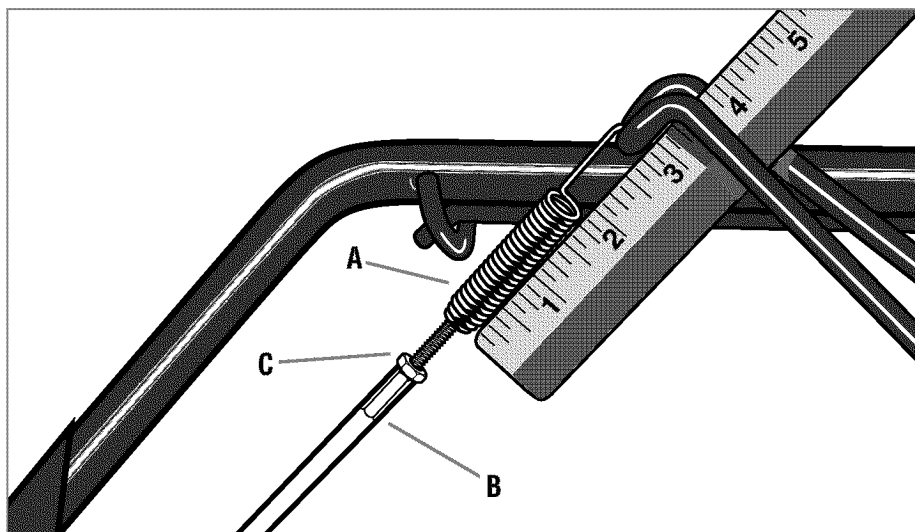

Figure 5-4: Lift bail and check length of Clutch Bail Spring to check for correct belt tension (1-7/8").
2. Loosen nut "C" (Figure 5-4) several turns so it is about halfway up the threaded adjustment screw.
Measure the length of the clutch bail spring (A, Figure 5-4) with a ruler. If the belt tension is correct, the length of the coiled portion of the spring should be approximately 1-7/8". Nut "C" should then be snugged down against the top of the adjuster (B).
5. To adjust the length of the spring, release the Forward Clutch Bail. Thread the hex nut (C, Fig. 5-4) halfway up the adjustment screw. Turn the screw inside the spring (A, Figure 5-4) counterclockwise (as viewed from the operator's position) while holding the adjuster (B) steady to increase the length of the spring, or turn clockwise (as viewed from the operator's position) to decrease the length of the spring.